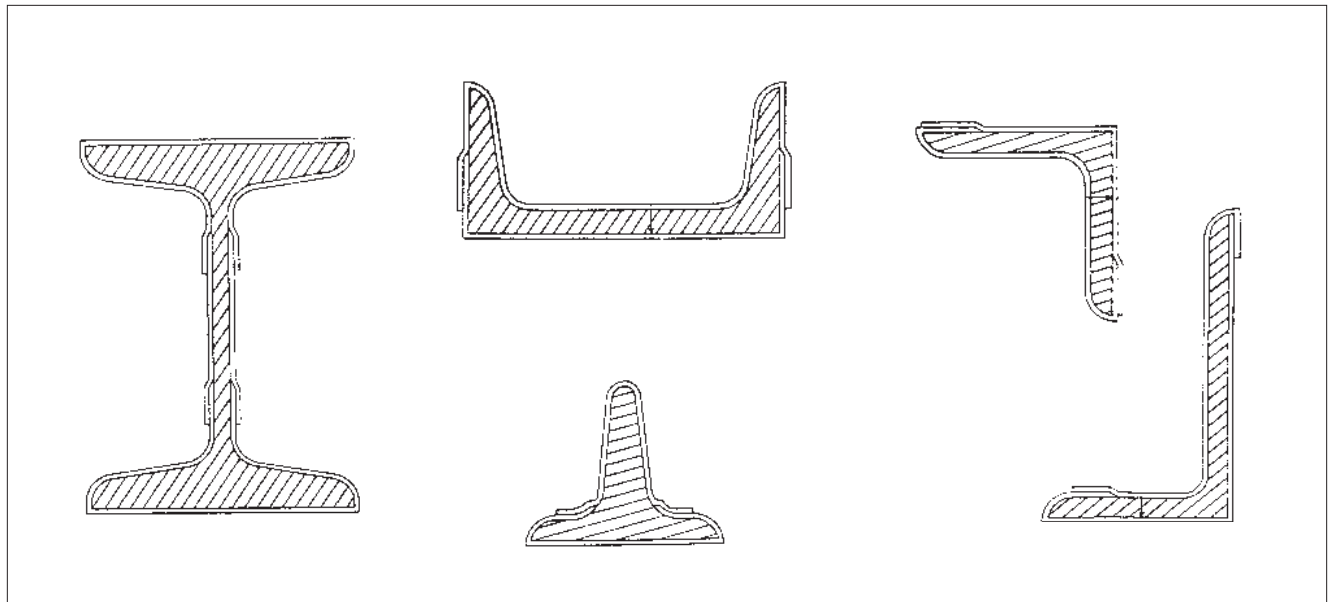

Figure 3
- 10.2 Use Denso Hi-Tack Primer & Denso Hi-Tack Tape which permit overlaps of at least 1" (25 mm) to be made in a downward direction (weatherboard effect) on vertical surfaces. Minimize the overlaps on the underside of horizontal surfaces (*See Figure 3*).
- 10.10 See Figure 3 for examples.